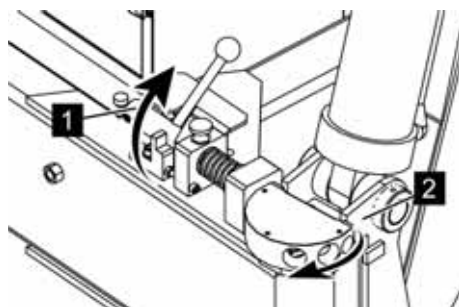

Fig. 58: Loosening the latching
2. ➔ Put the latching bolt (Fig. 58/1) into the position shown (Fig. 58) so that the outrigger (Fig. 58/2) swivels freely.